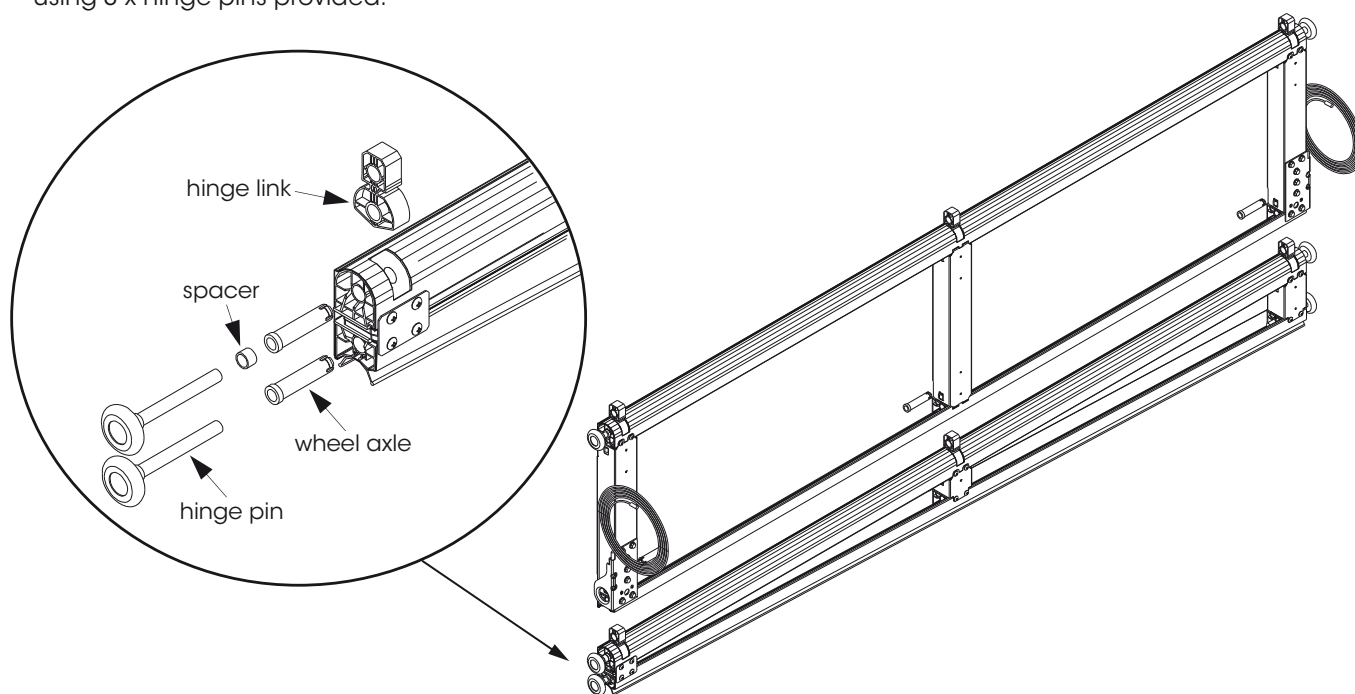

Fig: 5.3.1
- a) Assemble the bottom panel taking note that there are no wheels or weather strip on the bottom panel, these are both on the taper panel. Fig 5.3.1.
- b) Assemble the tapered panel as shown in insert of Fig 5.3.1. The 2 spacers required are to be cut 10-12mm long from a white link pin and fitted one to each side as shown.